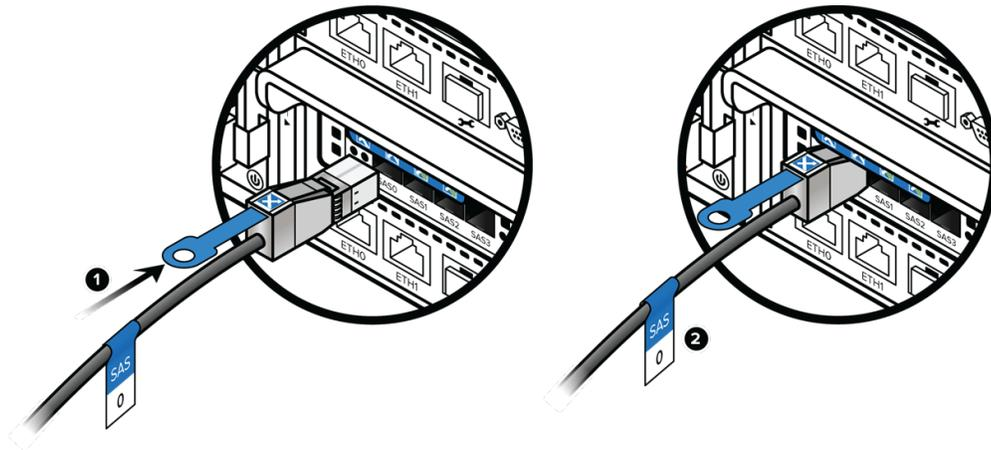

Figure 13-19. Connecting SAS Cables
2. Verify that the label on the connector matches the label of the port (see Figure 13-19).